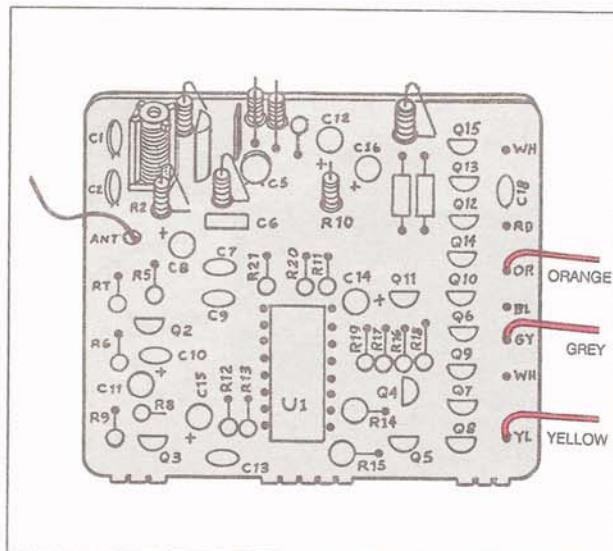

FIG. 72
8. Solder the temporary insulated wire antenna (E1) to point-ANT on the PC board (See Fig. 72).
10. Solder the three leads from Step-10 to the PC board, in the locations illustrated in Fig. 72.